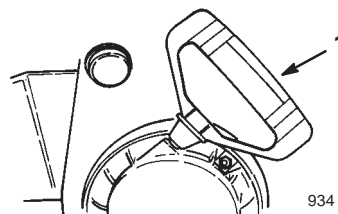

Figure 17
- **Recoil Starter** (Fig. 17)—The recoil starter is on the back side of the engine. Pull the recoil starter to start the engine.
8. Grasp the recoil starter handle (Fig. 17) and pull it out slowly until positive engagement results; then pull the handle vigorously to start the engine.